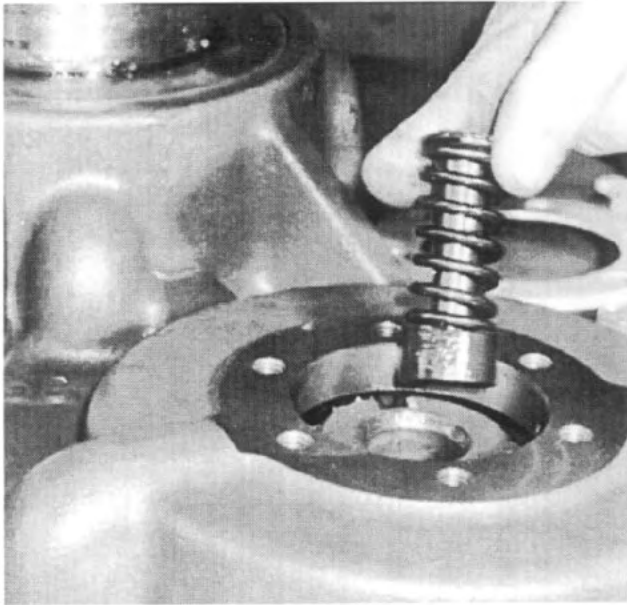

Fig. 112
5. After shim measurements are taken and noted, remove the spacer ring and pump cartridge assembly from the end of the intermediate shaft. Install the pressure relief spring into the cavity at the end of the intermediate shaft. See Fig. 112.